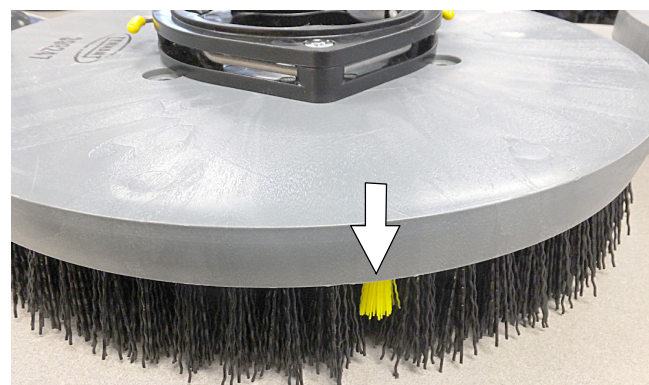

FIG. 56
5. Replace brushes when they no longer clean effectively or when the bristles are worn to the yellow indicator (Figure 56).